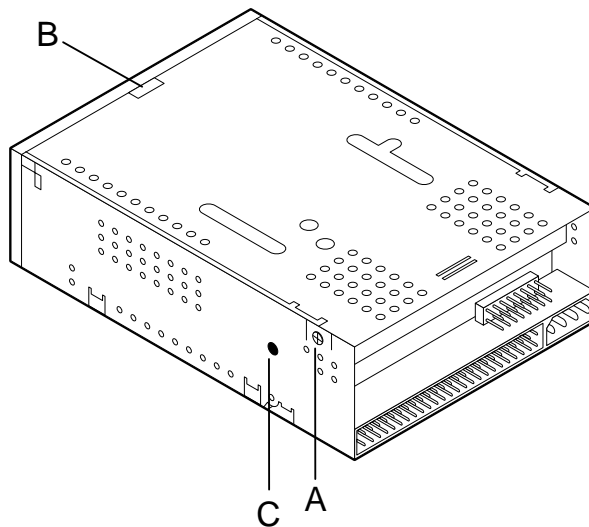

Figure 21. Locations on Drive
4. Remove the top cover by removing the two screws at the top edge near the rear of the unit (one on each side). (See A in Figure 21.) Save the screws in a safe place. Then remove the front bezel by pulling out on the top of the bezel at the indentation. (See B in Figure 21.)
For the internal model with rails, remove the mounting rails by removing the four screws near the lower edge of the unit (two on each side) that are accessed through holes in the side of each rail. Next, remove the drive's top cover by removing the two screws at the top edge near the rear of the drive (one on each side). Save the screws in a safe place. (See A in Figure 21.) Then remove the front bezel by pulling out on the top of the bezel at the indentation. (See B in Figure 21.)
5. Turn the unit upside down and remove the four screws (two screws on each side) that attach the external cover to the chassis unit. Remove the exterior cover and retain the screws. On the drive unit inside the chassis, remove the top cover by removing the two screws at the top edge near the rear of the unit (one on each side). (See A in Figure 21.)
6. Insert a small (precision) screw driver in the hole on the right side of the drive near the rear and turn the mode motor shaft clockwise. (See C in Figure 21.)